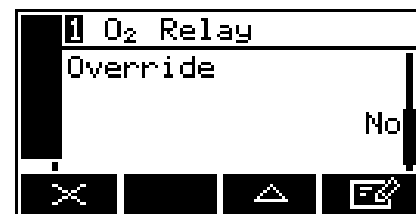

Figure 75 – The relay override action screen
3. Scroll to the relay override screen (Figure 75).